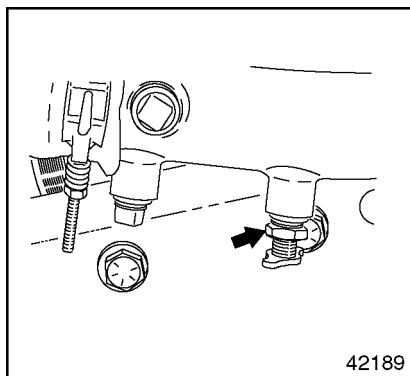

Figure 33 Coolant Drain Plug
3. Place a large receptacle underneath the coolant drain plug and open the coolant drain plug on the bottom of the radiator. See Figure 33.